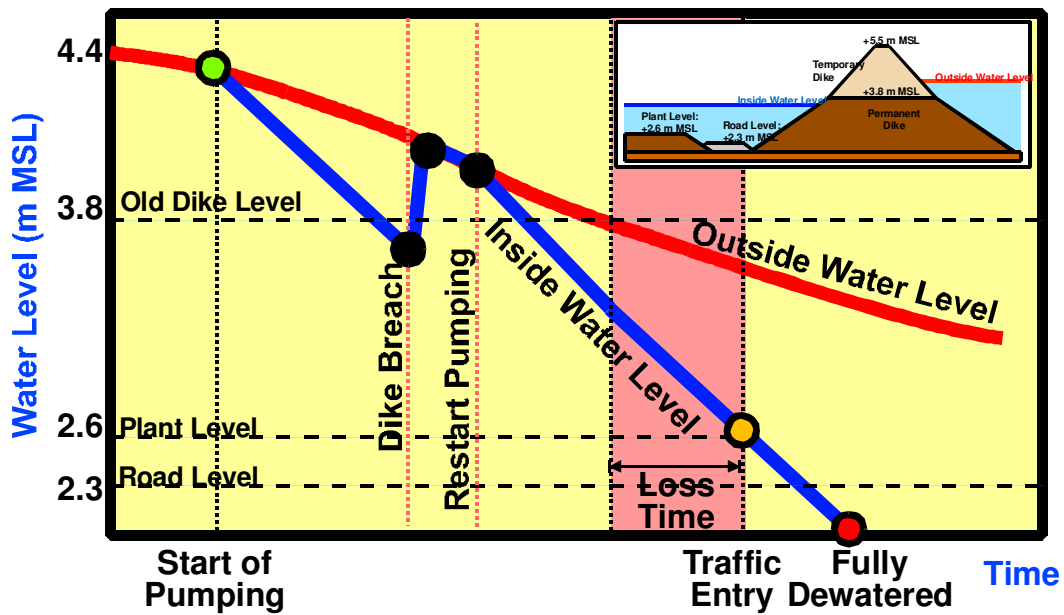

Figure 7 Water Level Condition during Dike Failure
1. **Risk of dike breaching during pumping when outside water level is above +3.8 m MSL.** If pumping starts before the outside water level reaches +3.8m MSL, then there is a higher risk of dike breaching during pumping. The failure of dike will raise the inside water level to match the outside water level within a very short period with schematic shown in Figure 7. During repair of dike, the inside water level will equilibrate with the outside water level. Once the pumping has restarted, then the drawdown will continue. The consequence of the dike breaching with high outside water level is ***considered minor*** with minimum risk to safety, but there will be a loss in pumping time. Therefore, an early start in pumping is considered acceptable with some risk in time loss if the dike failed.